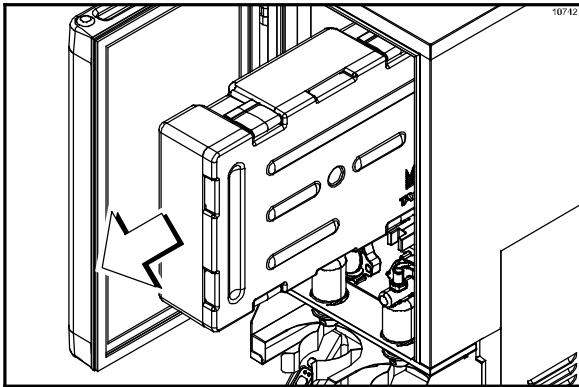

Figure 27
1. Open the dispenser door and remove the cassette that contains the flavor to be changed. (See Figure 27.)